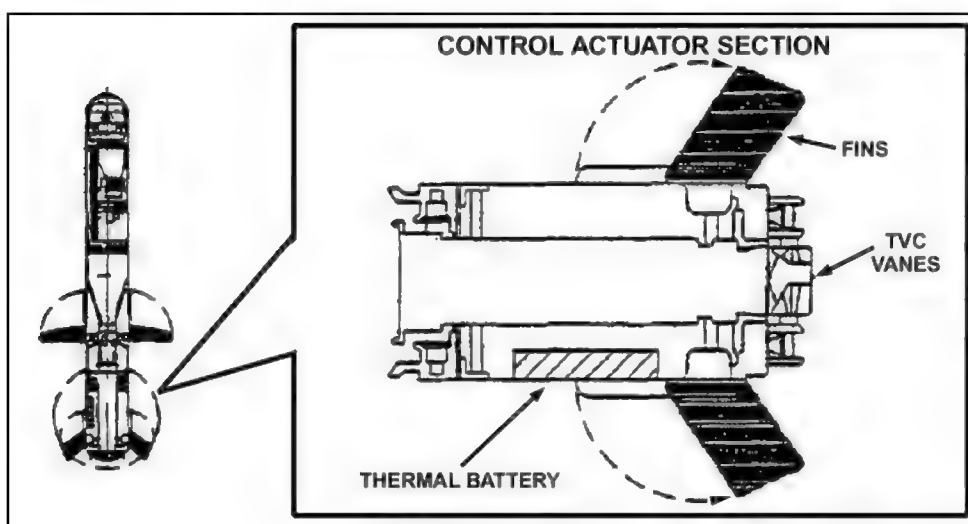

Figure 1-25. Control actuator section.
e. **Control Actuator Section.** The control actuator section (Figure 1-25) maneuvers the missile during flight and provides internal electrical power. The control actuator section consists of four control fins, four thrust vector control vanes, and a thermal battery.